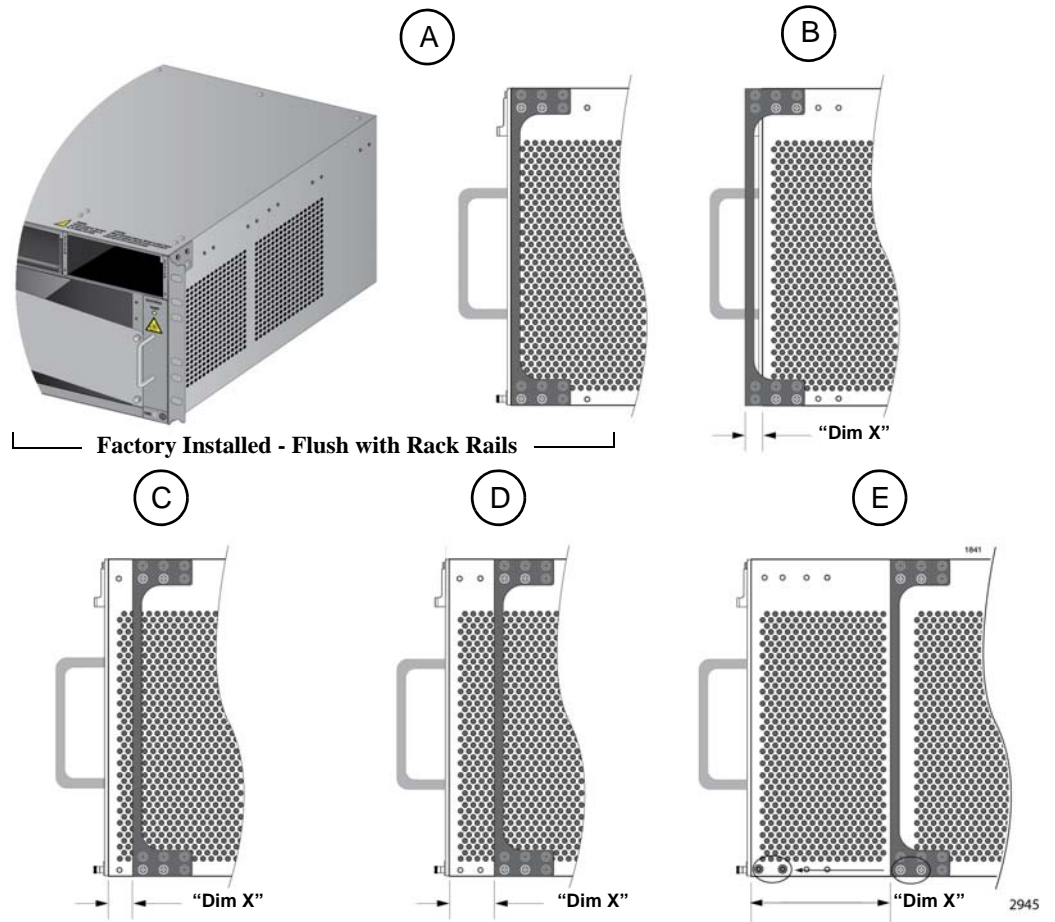
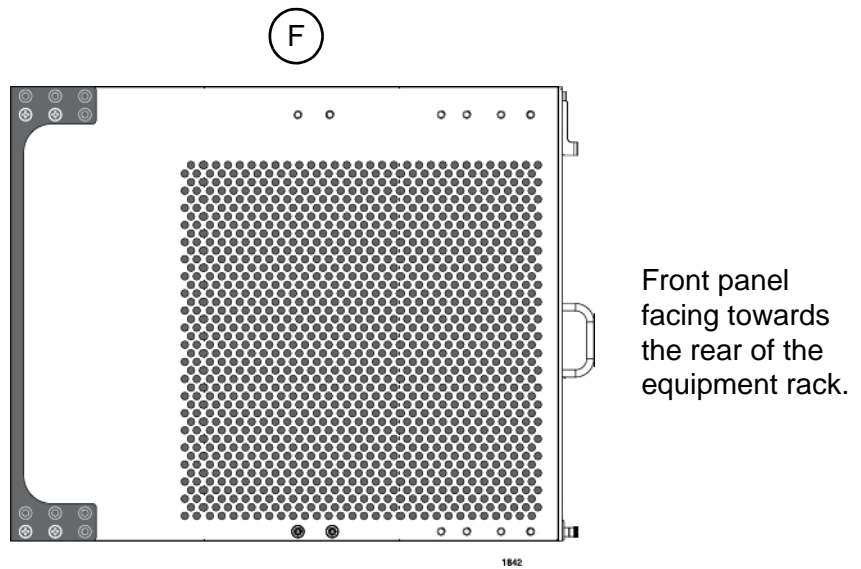

Figure 39. Rack Mounting Bracket Locations
Figure 40. Rack Bracket Locations for Reverse Position of Chassis
You adjust the brackets by removing them and re-installing them in different positions on the sides of the chassis. The bracket positions are listed in Table 28 and illustrated in Figure 39 on page 111 and Figure 40 on page 111. Please review the following information before moving the brackets:
- ❑ To install the rack mount brackets in position “E,” you have to remove the two chassis screws from the bottom-middle section of the chassis and re-install them in front where the rack mount bracket screws were originally, as shown in Figure 39 on page 111.
- ❑ The dimension (X) between the front panel and the rack rails is given for each rack mounting bracket position in Table 28.